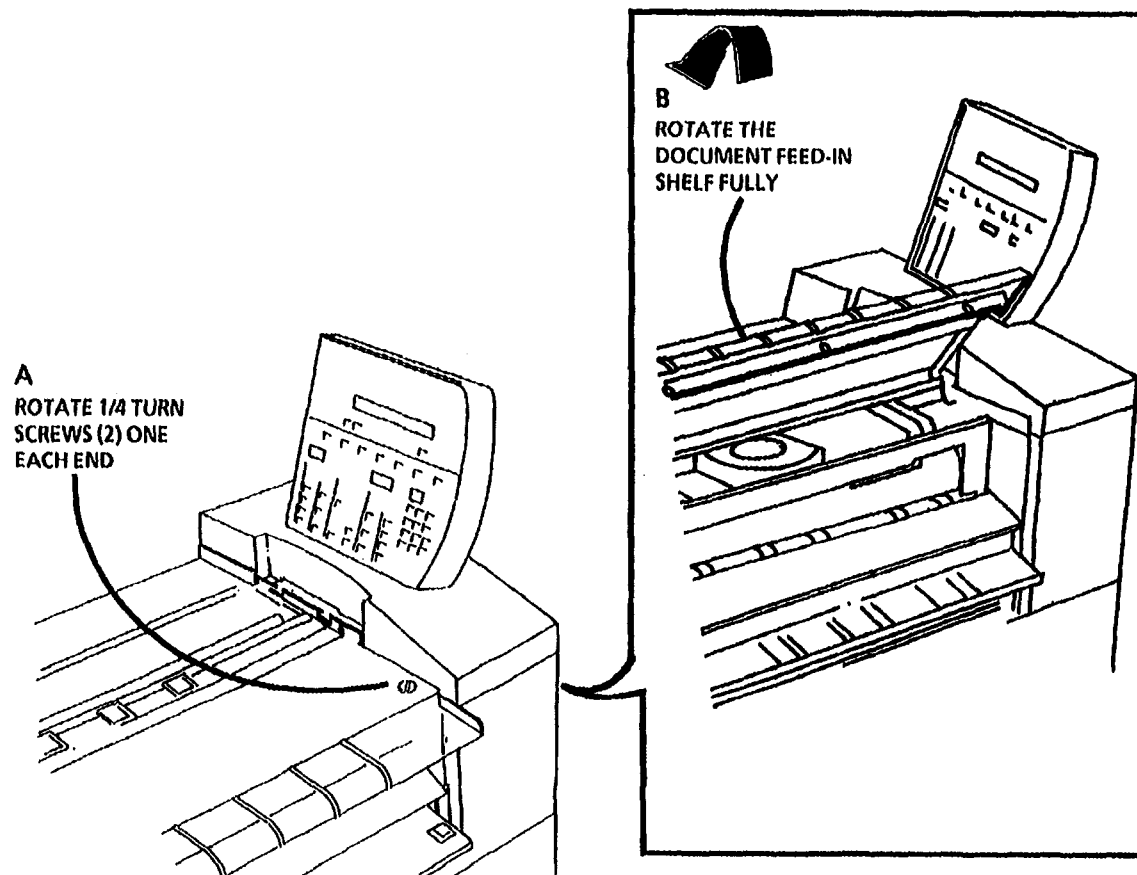

Figure 1. Lift the Document Feed-in Shelf
5. (Figure 1): Lift the Document Feed-in Shelf.